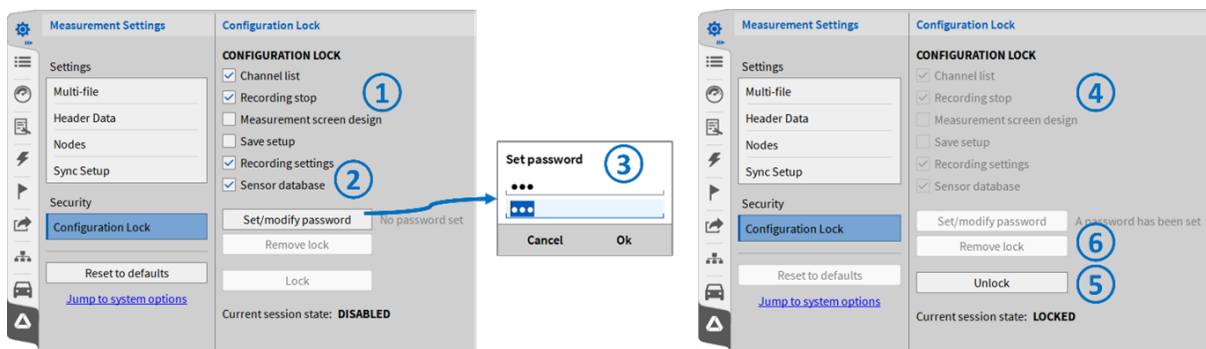

Fig. 5.49: Activation setup lock
- Select the settings that shall be locked (see ① in Fig. 5.49).
- Press *Set/modify password* (see ② in Fig. 5.49).
- Enter the password and confirm it (see ③ in Fig. 5.49).
- The selected settings will be locked afterwards (see ④ in Fig. 5.49).
- To unlock the settings again, press the *Unlock* button and enter the password (see ⑤ in Fig. 5.49).
- To remove the lock from the setup again, press *Remove lock* in the unlocked state (see ⑥ in Fig. 5.49).